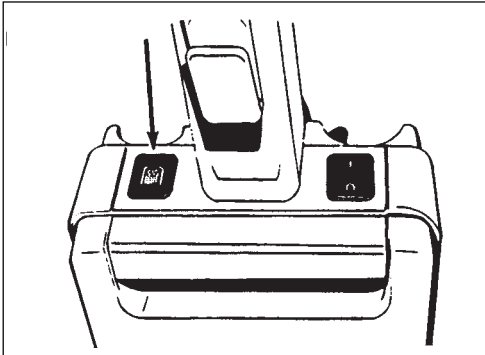

Figure 5
**The Indicator Light** (See figure 5)
**Indicateur lumineux** (Voir figure 5.)